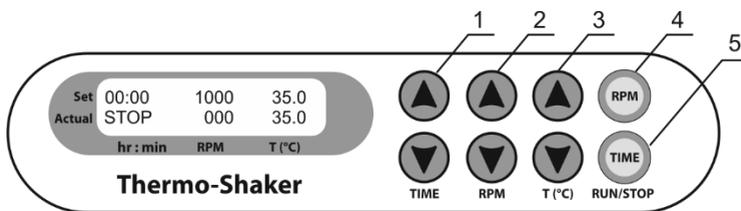
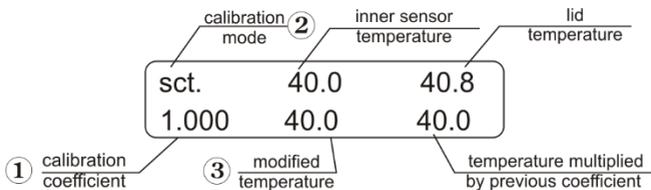
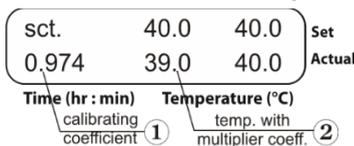

Figure 1. Control panel
Figure 2. Control panel in calibration mode
Figure 3. Control panel in calibration and operation mode
- 4.3.1. Using the ▲ and ▼ **TIME** keys (Fig. 1/Ⓐ) set the required working time interval in hours and minutes (increment - 1 min). Pressing the key for more than 3 s will increase the increment. *Setting speed (RPM)*
- 4.3.2. Using the ▲ and ▼ **RPM** keys (Fig. 1/Ⓑ) set the required speed (increment 10 RPM). Pressing the key for more than 3 s will increase the increment. *Setting temperature (T, °C)*
- 4.3.3. Using the ▲ and ▼ **T (°C)** keys (Fig. 1/Ⓒ) set the necessary temperature (increment 0.1°C). Pressing the key for more than 3 s will increase the increment.
- 4.5.2. Press the **RPM-RUN/STOP** key (Fig. 1/Ⓓ). The platform will start rotating and the timer indicator will start counting up the time interval (with 1 min precision).
- 4.7. The timer can be reset during operation if required. Press the **TIME-RUN/STOP** key once (Fig. 1/Ⓔ) to stop the timer. Press the **TIME-RUN/STOP** key again to restart the timer.
Caution! At the end of the set time period the platform movement is stopped automatically, but the heating can be stopped only by reducing the temperature using the ▼ T(°C) key (Fig. 1/Ⓕ lower key) till the OFF sign appears in the upper part of the display.
- 5.2. To enter the calibration coefficient, hold the **Stop** key (fig. 1/8) pressed for more than 8 s to activate calibration mode. The calibration coefficient will be shown on the display (fig. 2/1).
- 5.3. **Restoring factory settings.** Set 1.000 value using the **▲** and **▼ T (°C)** keys (fig. 1/6) as shown on Fig. 2/1 to restore the factory settings. Press the **Run** key (fig. 1/7) once to save the changes and exit the calibration mode.
- 5.4.4. Let us assume that the readings of independent sensor is 39°C, but the display's actual temperature is 40°C (fig. 1/4). Then it is necessary to add 1°C correction.
- 5.4.5. Hold **Stop** key (fig. 1/8) pressed for more than 8 s to activate calibration mode. The following parameters will be shown on the display (fig. 2).
- 5.4.6. Using the **▲** and **▼ T (°C)** keys (fig. 1/6), change the calibration coefficient (fig. 3/1) so that the new temperature value (fig. 3/2) corresponds to the independent sensor temperature. In our example, the calibration coefficient will be 0.974.
- 5.4.7. After finishing the calibration press the **Run** key (fig. 1/7) once to save the changes and exit the calibration mode.
- 7.4. **Error codes.** Following error codes are shown in the lower right corner of the display (fig. 1), accompanied by a sound signal every 8 s. Press RPM RUN/STOP key to turn off the signal. Please contact our Service Department in the UK or, in other countries, our distributor.